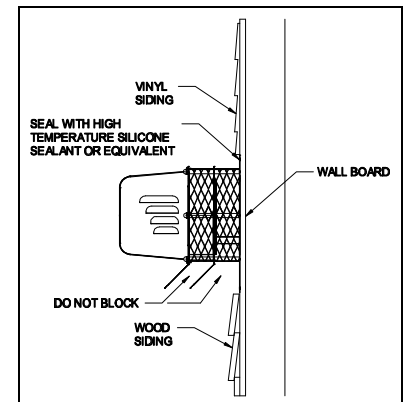
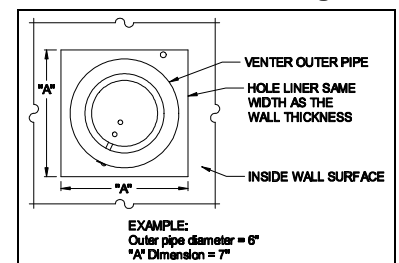

Figure 2
Figure 3
- After determining the location of the venting system termination point (see Diagram A), cut a square hole through the wall 1" larger than the outer pipe diameter of the power venter. Mount the power venter through the wall, keeping the outer pipe centered in the hole. (See Figure 3) Fasten the power venter to the outside wall with appropriate fasteners. Seal the edges of the power venter base plate to the wall with a high temperature silicone sealant. DO NOT enclose the spaced plates on the power venter body. This will result in reduced cooling of the power venter body. Wood or vinyl siding should be cut so that the unit mounts directly on the wall board to provide a stable support. If the siding is greater than 1/2" thick use a spacer plate or board behind the power venter mounting plate. (See Figure 2)
NOTE: If mounting the power venter through a combustible wall material and the flue gas temperature is above 400°F at the power venter inlet, line the square hole with a piece of corrosion resistant sheet metal or non-combustible material. The liner piece should be the same width as the wall section. (See Figure 3) The power venter has a maximum flue gas temperature of 550°F at the venter inlet. For installation in wall thicknesses over 8 inches, use an SWG Series Though Wall Extension Kit, Model PEK.